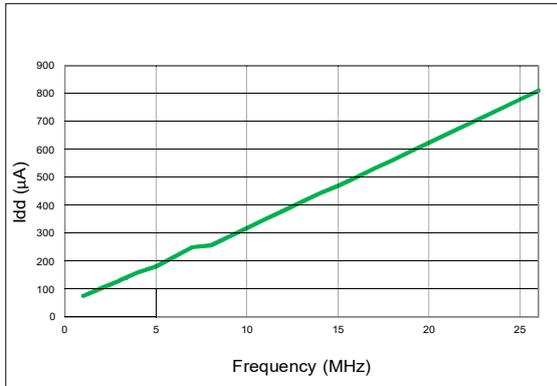
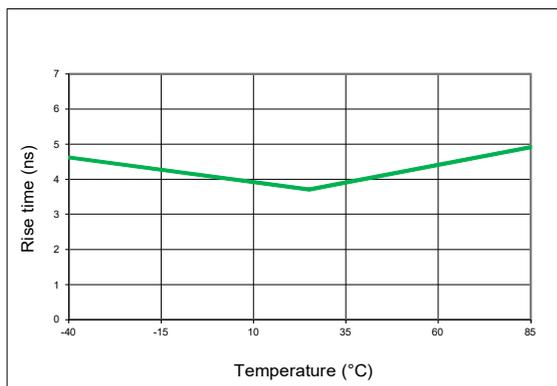

Figure 8. Idd vs Frequency^[7]
Figure 12. Rise Time vs Temperature^[7]
7. For Figure 8, data is measured with 10 pF load. For Figures 12 and 13, data is measured with 15 pF load.